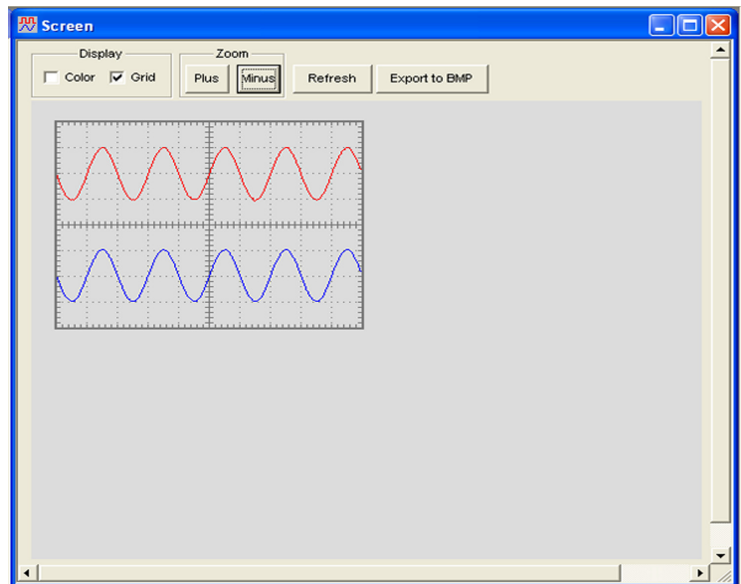

Figure 16 Screen capture window with zoomed out display of waveform and without Color and Grid unchecked.
- 6** Figure 16 shows the **Grid** and **Color** check boxes unchecked and the screen display set to **Minus**.